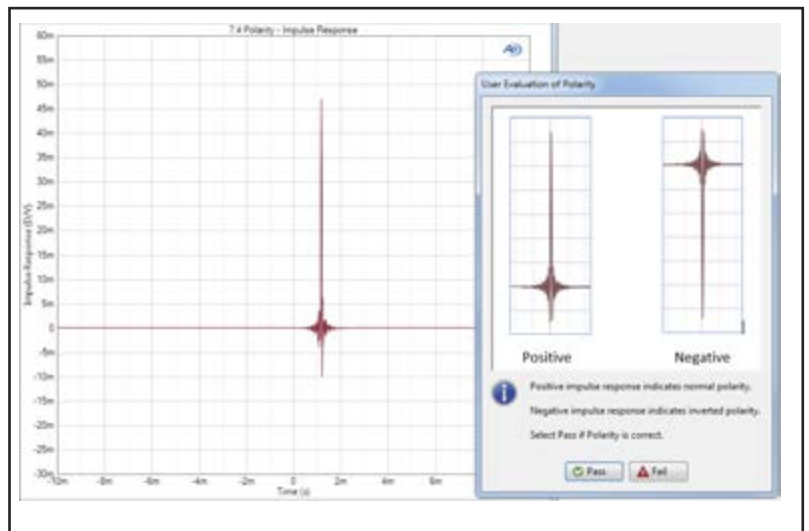

Figure 12: An impulse response (IR) is used to check polarity.
Audio circuits (including converters) often use differential (balanced) architectures. This opens the door for polarity faults. An impulse response (IR) stimulus provides a clear observation of normal or reversed polarity (see **Figure 12**).